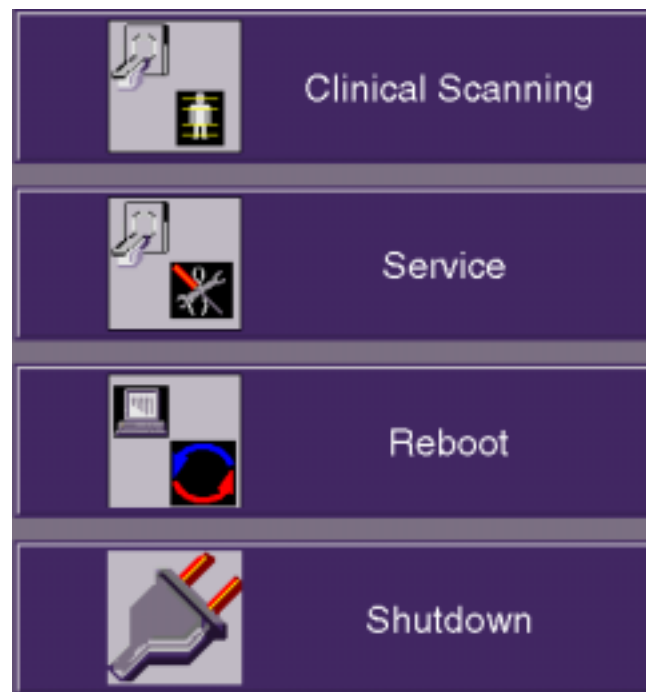
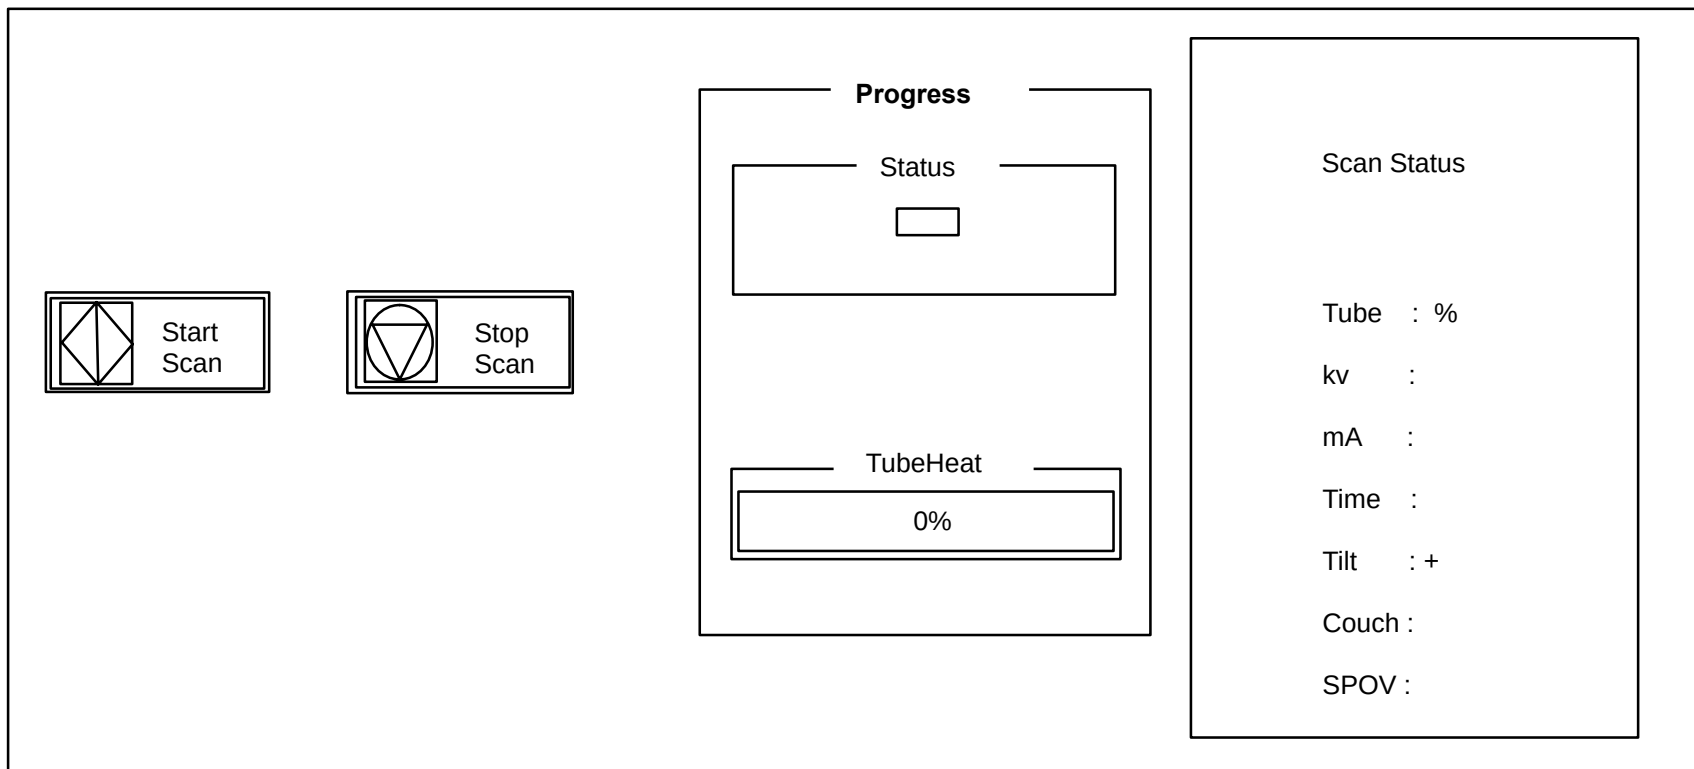

FIGURE 225 4 BUTTON SCREEN
FIGURE 226 TUBE WARM-UP STATUS WINDOW
1. Make sure the Gantry keyswitch is in the normal position. Turn the Display Tower keyswitch to the **ON** position. After the system boots, you will be prompted with the startup application display (or “4 Button Screen.”) You have **4 boot options**. Refer to Figure 225.:
3. To perform a tube warm-up, click on the Tube Warm Up button with the mouse pointer. Refer to Figure 225. This will initiate the warm-up sequence and **X-RAYS WILL BE EMITTED**. The tube warm-up status is displayed in the Tube Warmup Window. Refer to Figure 226.
1. From the 4 Button Screen (Figure 225) click on SHUTDOWN with the mouse pointer.